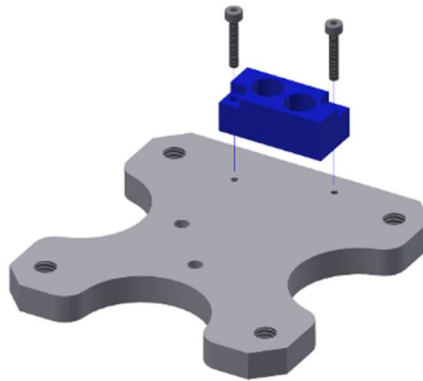

Figure 3-23. Head tilt sensor and sensor mounting plate
- 3.3.3 Attach the head tilt sensor (SA572-S44) to the sensor mounting plate (474-1031) using two M2 X 0.4 X 12 SHCS (Figure 3-23).